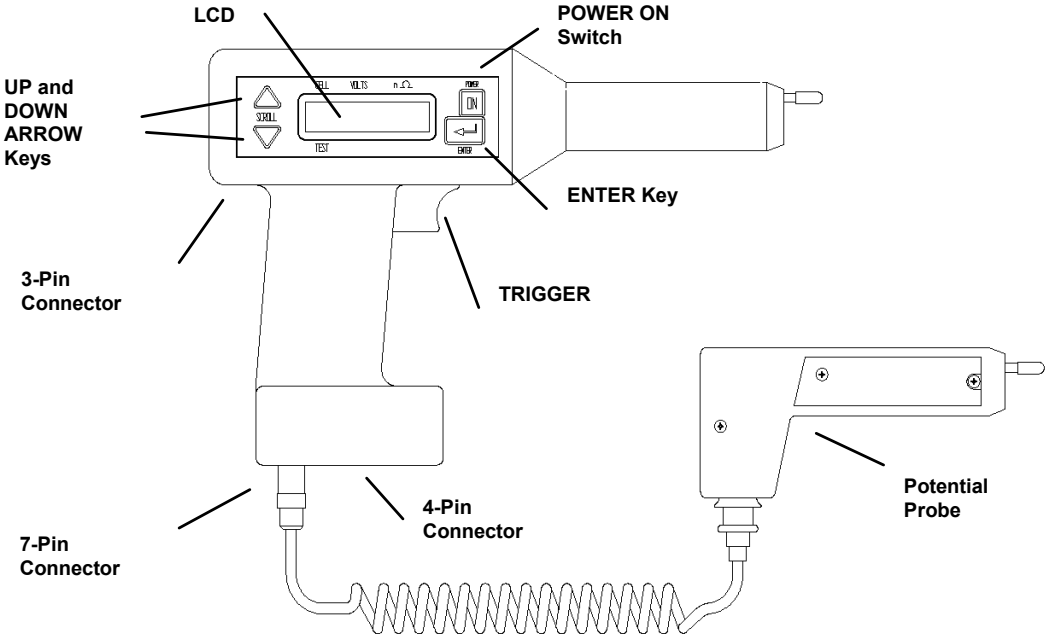

Figure 5-4: Receiver controls, connectors, and indicators
- 2. Connect the plug of the CT to the 4-pin connector on the **receiver**. Figure 5-4 shows the location of the 4-pin connector.